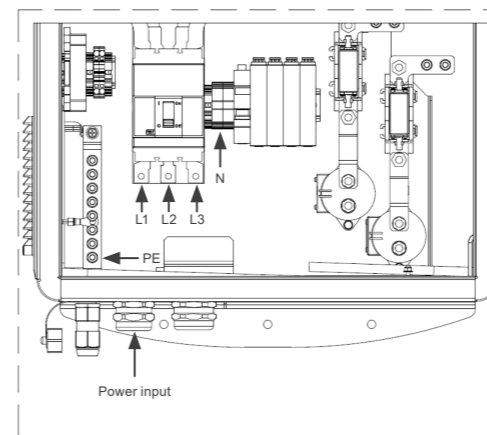

Figure 5.2: Power input
The WEMOB-STATION is connected to the grid directly on the Q1 circuit-breaker terminals (Phases R-S-T), at the neutral terminal, and on Ground (PE) bar (grounding of the structure), as shown in the Figure 5.2. It is recommended to use copper conductors with minimum gauges of: